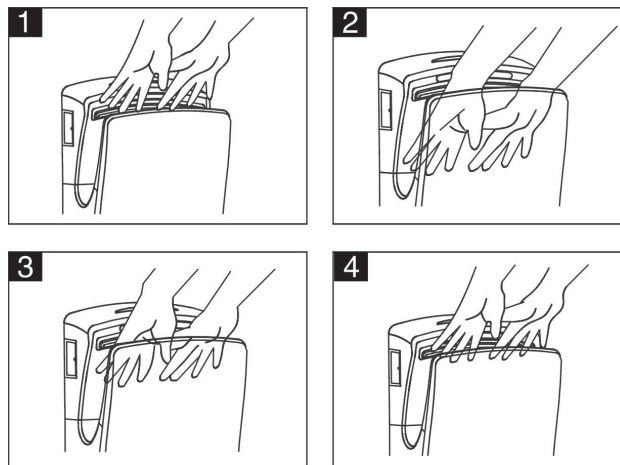

fig.6
- Place hands in opening (see fig.6).